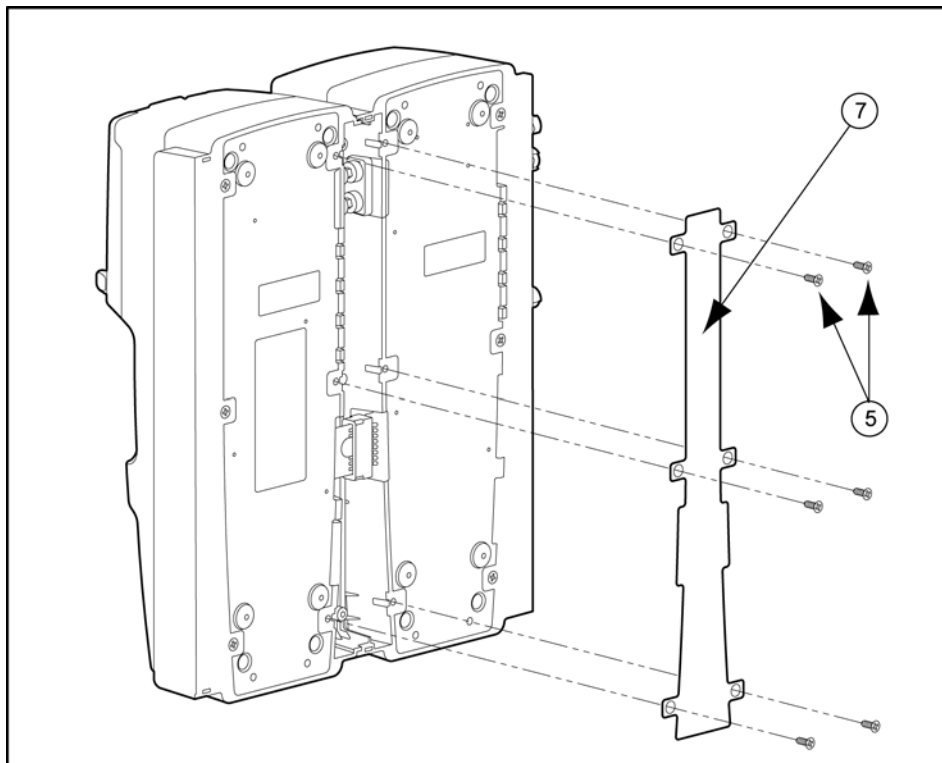

Figure 16. Attaching Back Cover Plate (Back View)
- Figure 16.
20. Fasten the bottom cover plate to the space between the two docking modules using six Phillips flat-head screws. Refer to Figure 16.
To change the dipswitch setting on a GasAlertClip Extreme docking module refer to Tables 15 and 16, Figures 16 and 17, and complete the following: